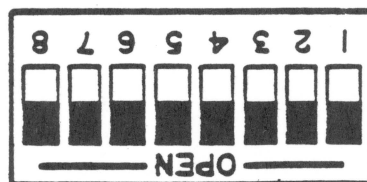

FIGURE 7
6. Using a small screwdriver, set all the SW 1 switches to OPEN. (See Figure 7.)